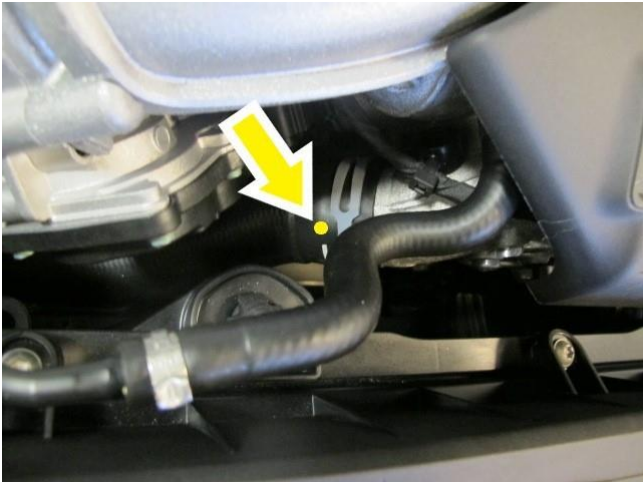

Figure 7
**Yes the fan is spinning / operating whilst the engine is running** - Apply a yellow paint completion mark on the radiator top hose (Figure 7) no further action is required
Yellow paint completion mark on the radiator top hose confirms the fan is spinning / operating (Figure 7)